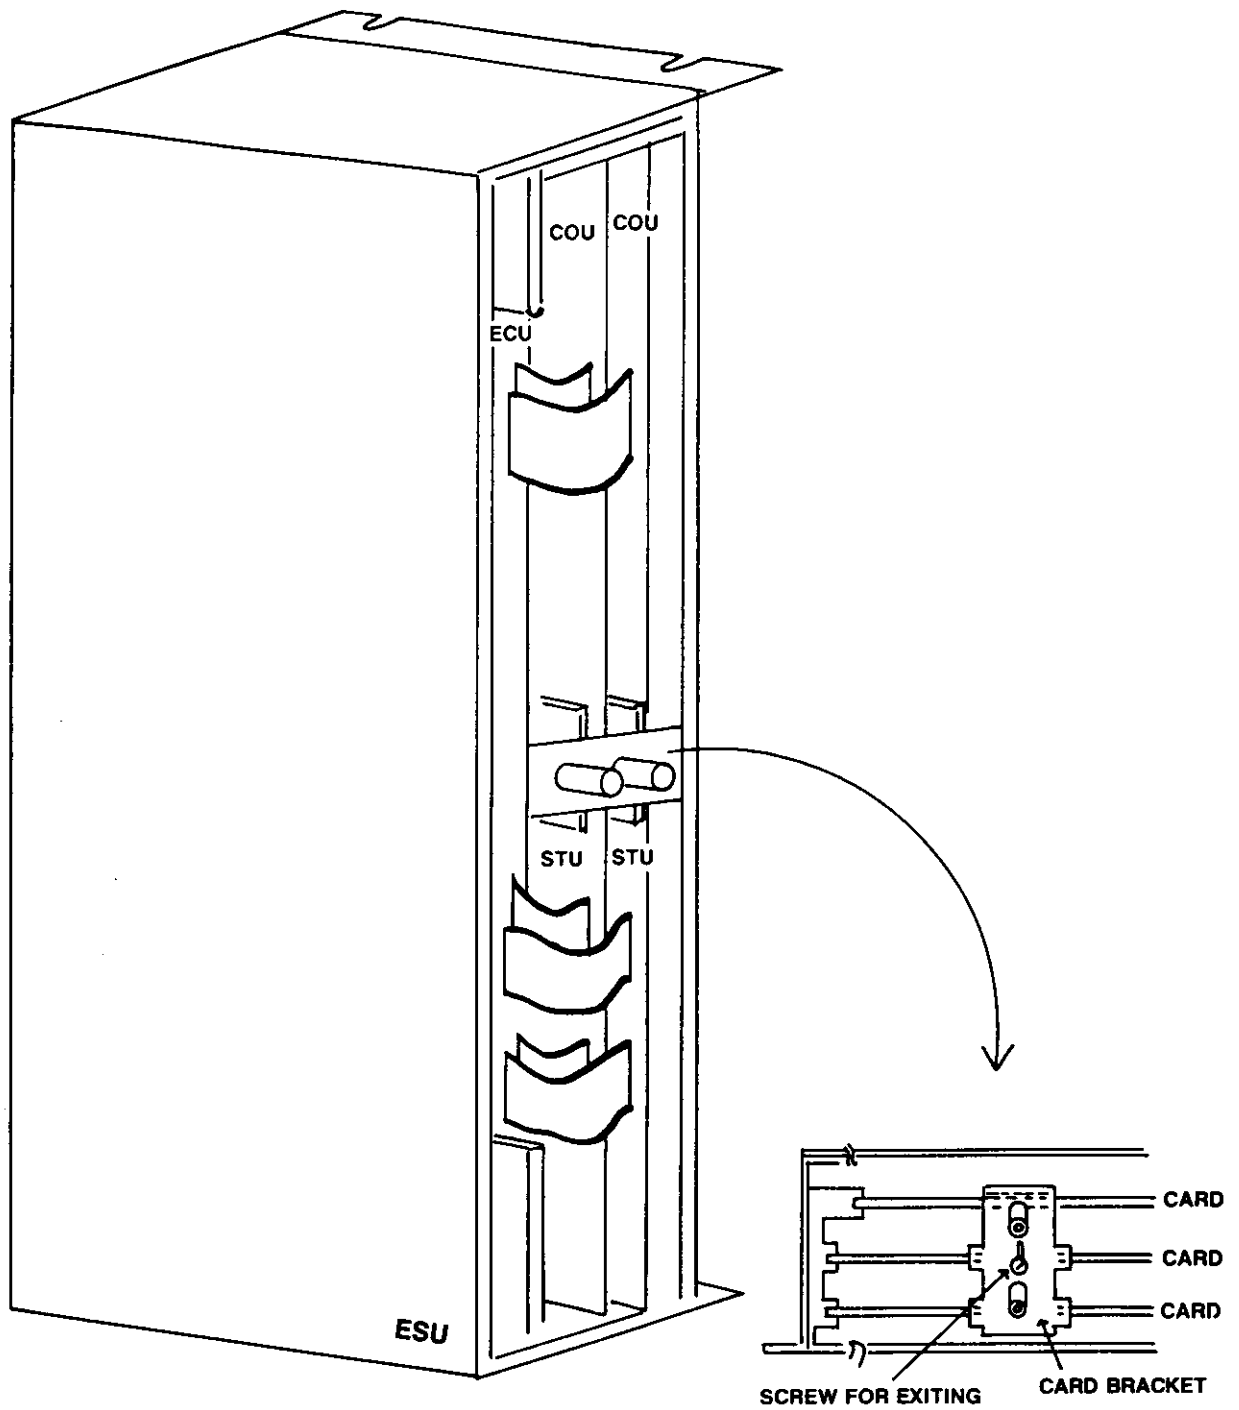
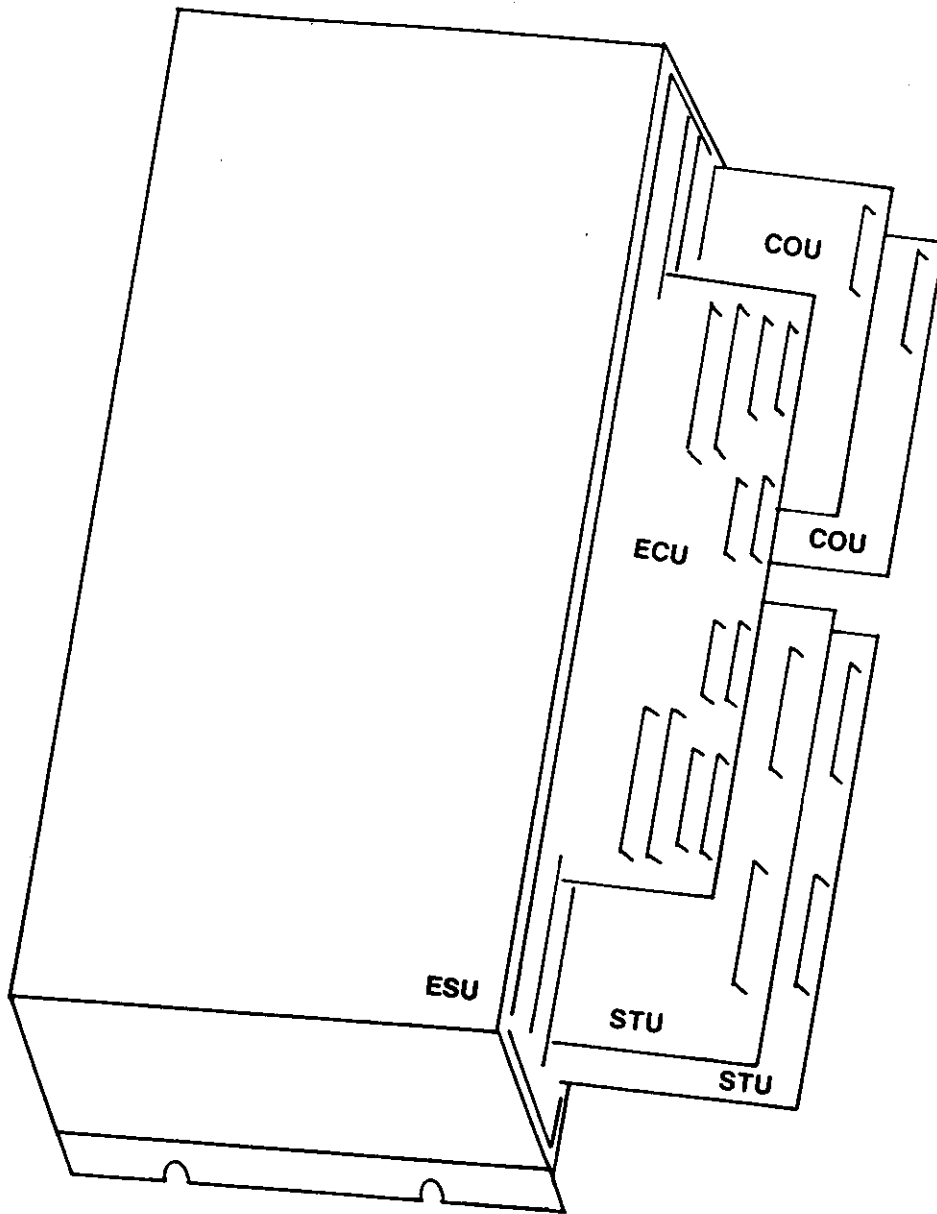
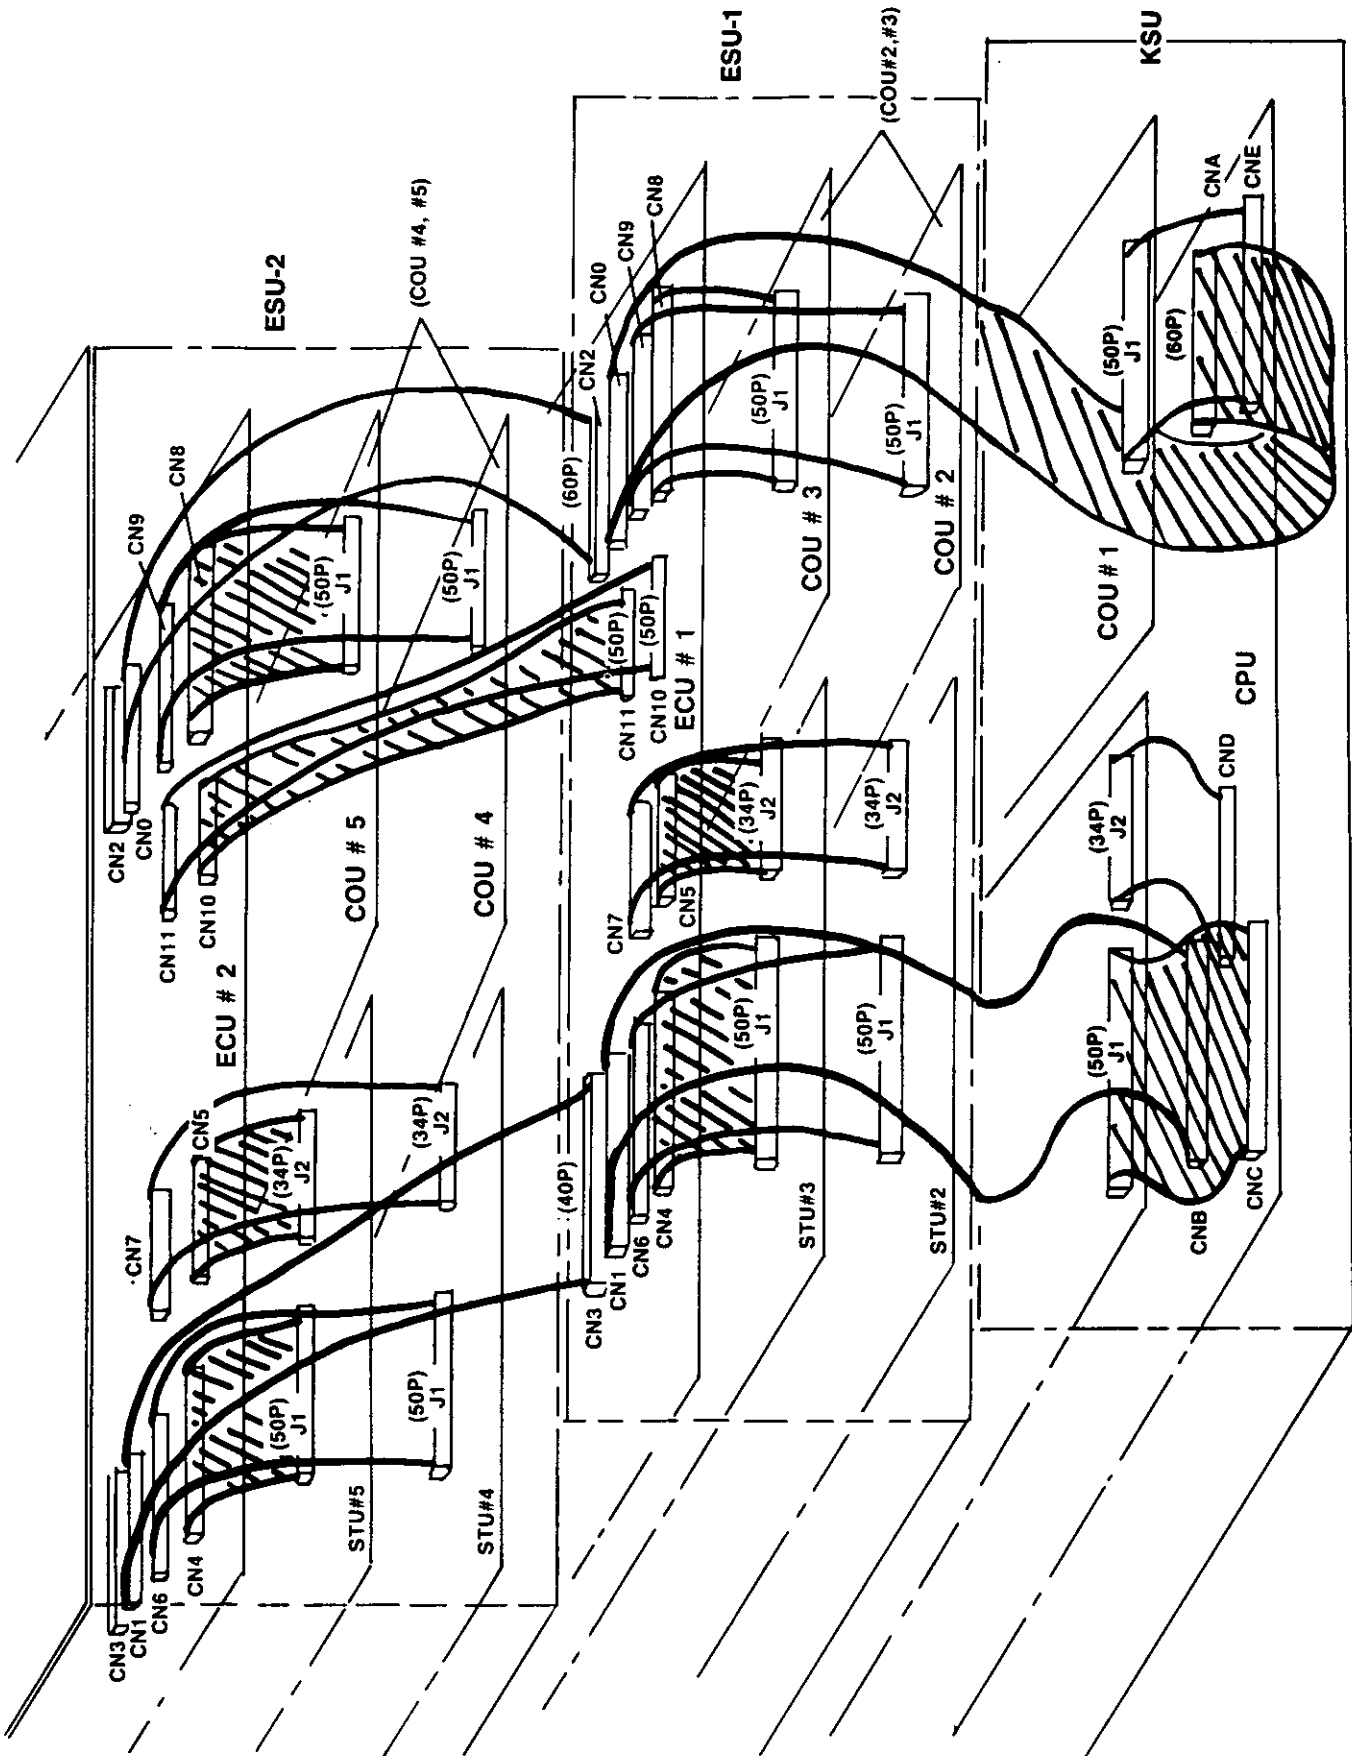

Figure 2-26. ESU Internal Construction
Figure 2-27. Circuit Card Positioning. (ESU)
Figure 2-28. Cabling Between the ESU/ESU and KSU.
The following paragraphs provide a brief description of as well as installation instructions for the basic and optional cards in the ESU and how they interface with the KSU. The ESU cabinet is a card file type cabinet with an internal/external power supply interface. The circuit cards associated with the ESU are to be inserted in the appropriate place as indicated on the ESU card file tracks. The circuit cards are interfaced with ribbon cables. (The ribbon cables are preferred, and more dependable replacement for a main distribution frame "MDF".) Table 2-8 lists the circuit cards in the ESU and the cable designations and interface. Figure 2-26 illustrates the internal construction of the ESU. Figure 2-27 shows the positioning of the cards. Figure 2-28 shows the proper cable connections between each ESU and the KSU.
*Also see Figure 2-28